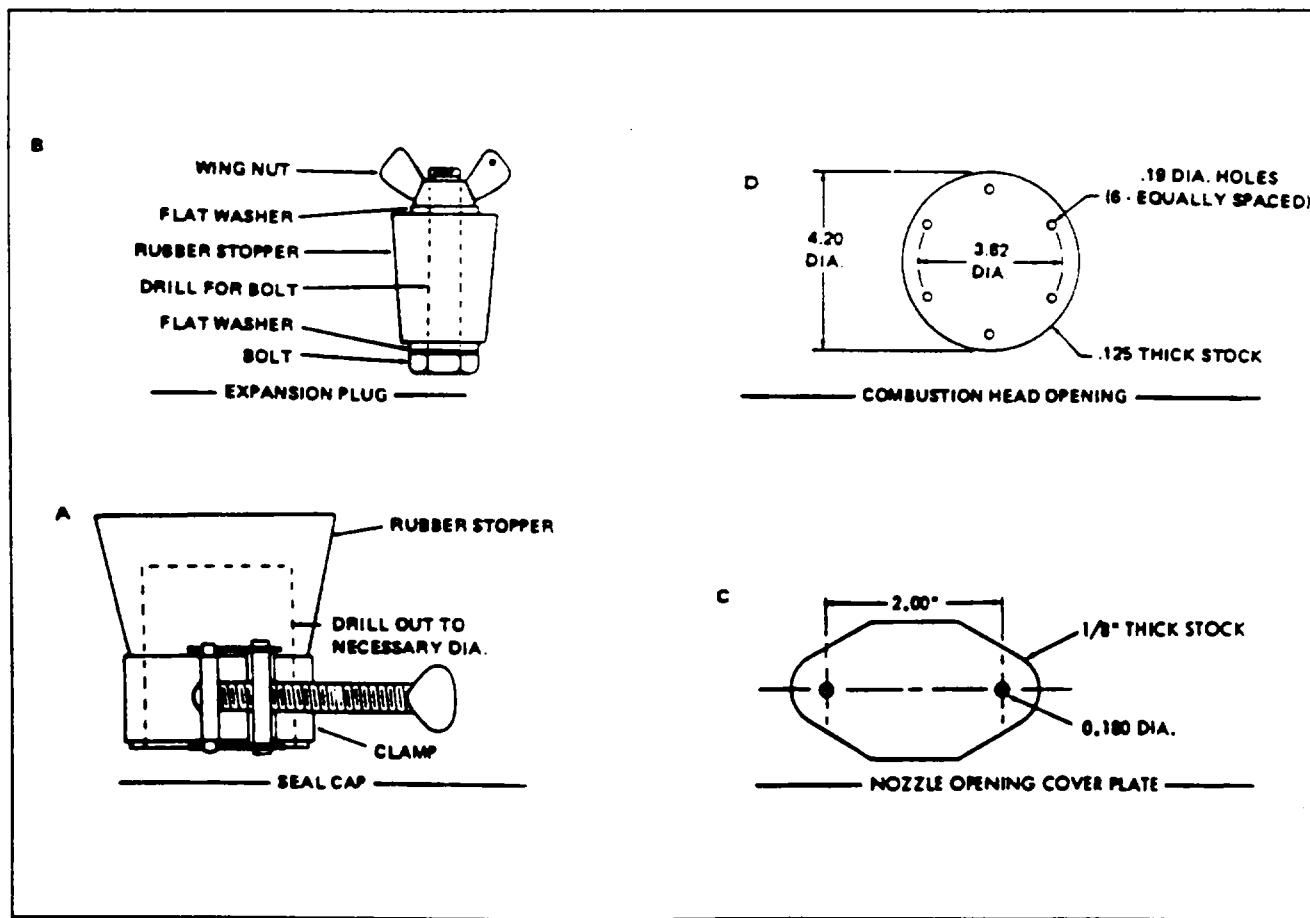

Figure 21-4. Suggested Design for Seal Plate, Plugs and Caps for Combustion Tube Leakage Test
- A. Fashion a sealing plate from approximately .125 inch thick flat stock to seal the combustion head opening in the combustion tube assembly. (Refer to Figure 21-4.) Use a rubber gasket under the plate and attach the plate with two screws.
- B. Make up seals for all remaining openings, except the one used to connect the air pressure source. (Refer to Figure 21-4.) Use rubber stoppers as shown. The combustion air inlet tube can be sealed best with a drilled stopper and clamp. Other openings should be sealed with expansion plugs. The seal used in the exhaust tube should be formed so that it will not deform the air pressure switch tube which protrudes into the exhaust.